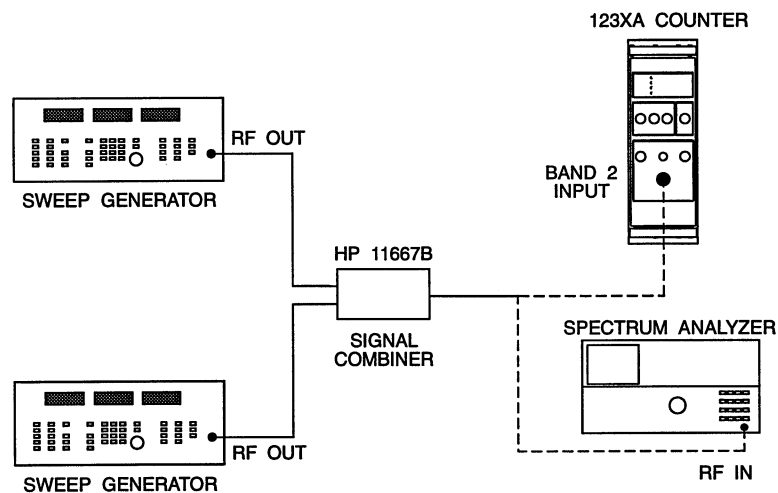

Figure 4-8. Band 2 Amplitude Discrimination Test Setup.
1. Connect equipment as shown in Figure 4-8.